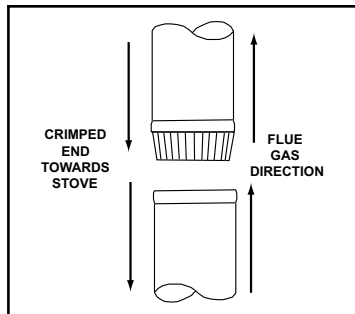

Figure 11A - Chimney Connector
1. Single wall connector or stovepipe. This must be at least 24 gauge mild steel or 26 gauge blue steel. The sections must be attached to the stove and to each other with the crimped (male) end pointing toward the stove. **See Figure 11A.** All joints, including the connection at the stove collar, should be secured with three sheet metal screws. Make sure to follow the minimum clearances to combustibles as set out on **pages 6 and 7** of this manual. Where passage through the wall, or partition of combustible construction is desired, the installation shall conform to CAN/CSA-B365.